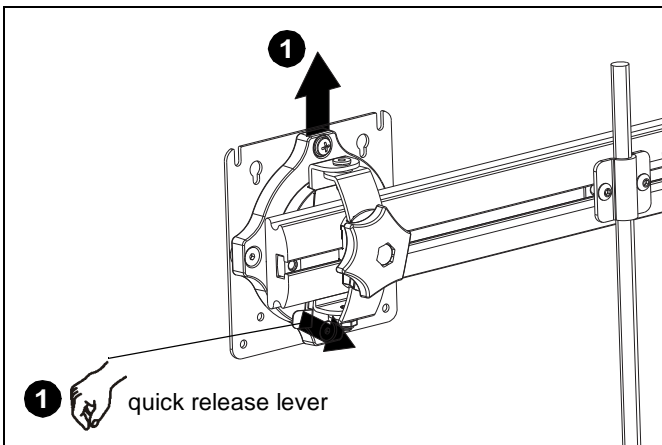

Figure 5
1. Remove quick release faceplate from mount by pulling quick release lever and sliding faceplate off mount. (See Figure 5)